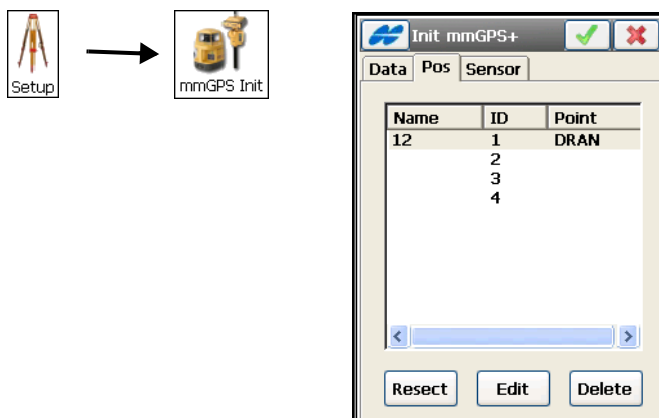
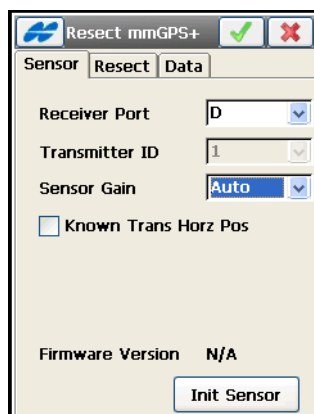

Figure A-1. Select Transmitter
Figure A-2. Initialize Sensor
1. With the controller and sensor connected, tap **Setup ▶ Init mmGPS**. The *Init mmGPS+* screen displays (Figure A-1 on page A-2).
2. Tap the *Position* tab, select a transmitter, then tap the **Reset** button (Figure A-1 on page A-2). The **Reset** screen displays (Figure A-2 on page A-2).
3. Tap the *Sensor* tab, then tap the **Init Sensor** button (Figure A-2).